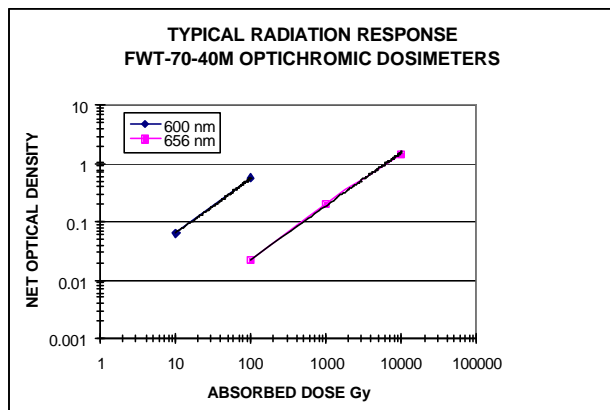

Figure 1 Typical Response Curve in Various Units
Figure 1 below is a typical curve for the Opti-chromic Dosimeters. The net absorbance was read in an FWT reader and shows the approximate Optical Density (OD) expected for absorbed dose. Background has been subtracted from these readings.